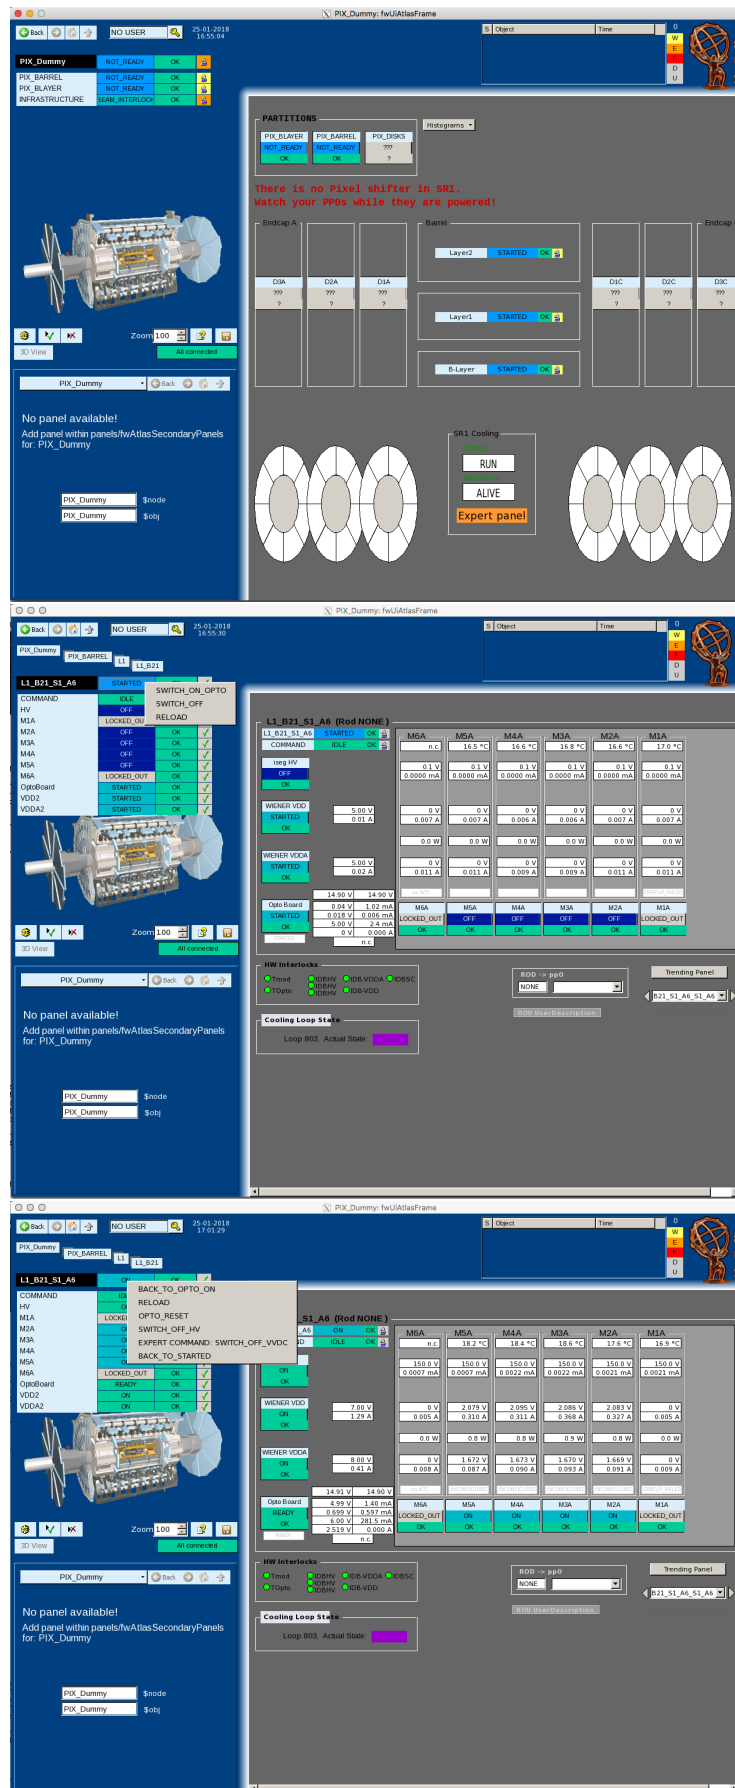

Figure 1.3: Screenshots of the DCS console to activate the modules
- It is always possible to check the trends and history of currents / temperature / voltages of the modules right-clicking on the correspondent boxes showing the current values on the DCS panel. For example, right-clicking on the temperature of module M5A in Fig. 1.3, the temperature trend will be shown. Same holds for the other quantities. **Note: archiving is not available for the second half of 2018!**